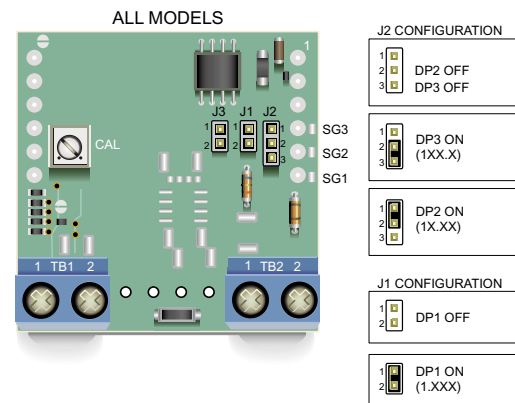

Figure 6. Decimal Point Selection Using J2 and J1 (Applies to All Models)
7. **Decimal Point Selection:** As shown in the Ordering Information guide, DCA5-20PC ammeters are multiple input-range devices. For example, with a 50mV input, DCA5-20PC-1-DC1 models can be configured to display "5.00", "50.0", or "500" Amps by simply removing or relocating decimal-point-selector jumper J2 (see Figure 6). Decimal points serve as placeholders only; they have no effect on displayed accuracy or resolution. If jumper J2 is not available, solder gaps SG1, SG2, or SG3 can be used to select DP1 ("1.XXX"), DP2 ("1X.XX"), or DP3 ("1XX.X"), respectively.